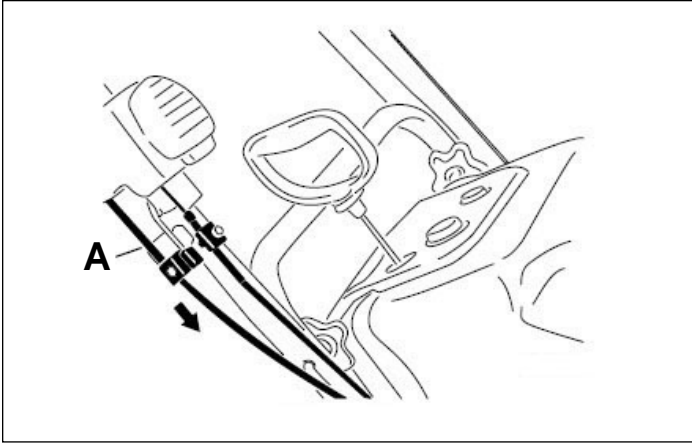

Fig. 027
4. Hold the discharge chute in the straight-ahead position, pull the lower cable casing downward until you remove the slack in the cable, and tighten the screw on the lower cable clamp securely (Fig. 027).